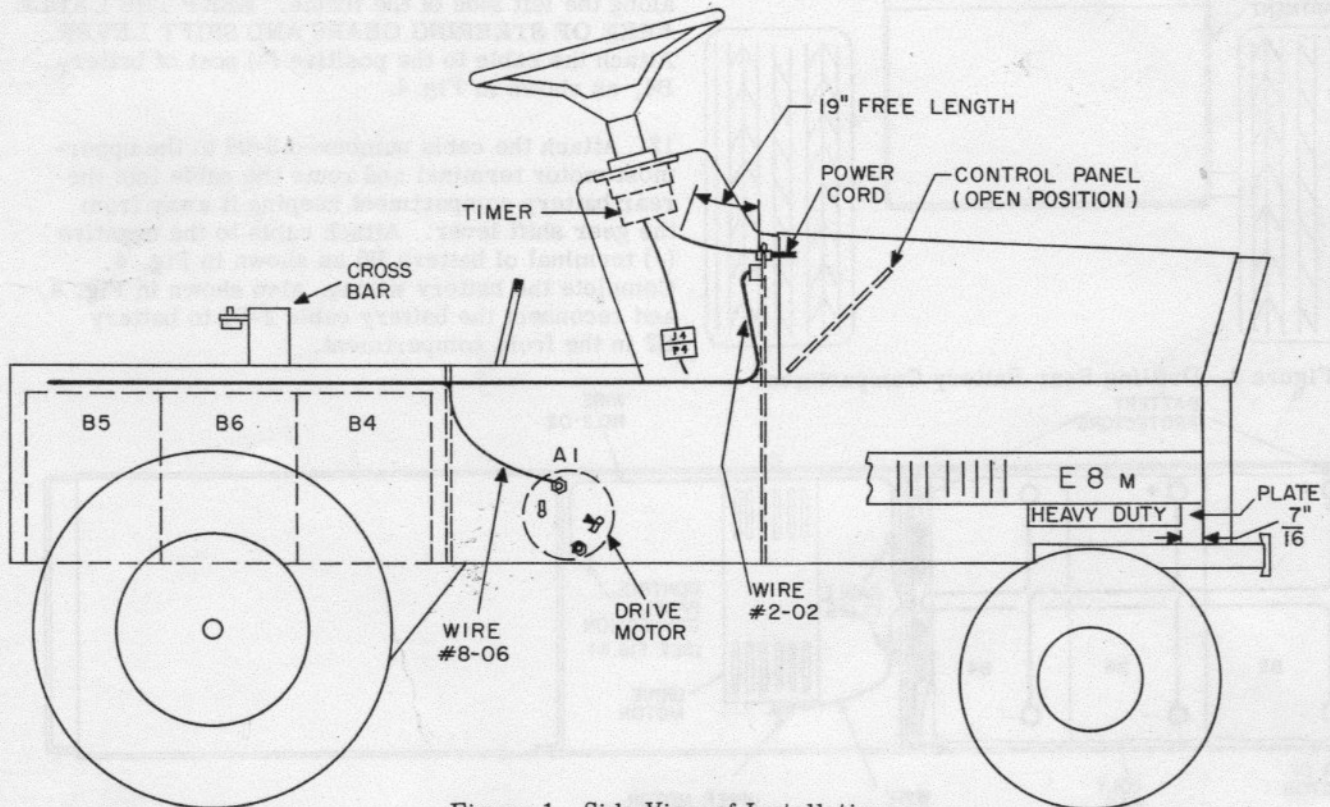

Figure 1. Side View of Installation
2. Remove the timer and power cord assemblies. Install the new timer furnished so that it indicates "Off" in its detent position. Reinstall the power cord with its strain relief grommet 19 inches from the terminated end of the cord. See Fig. 1. Refer to Fig. 2 for rewiring information.